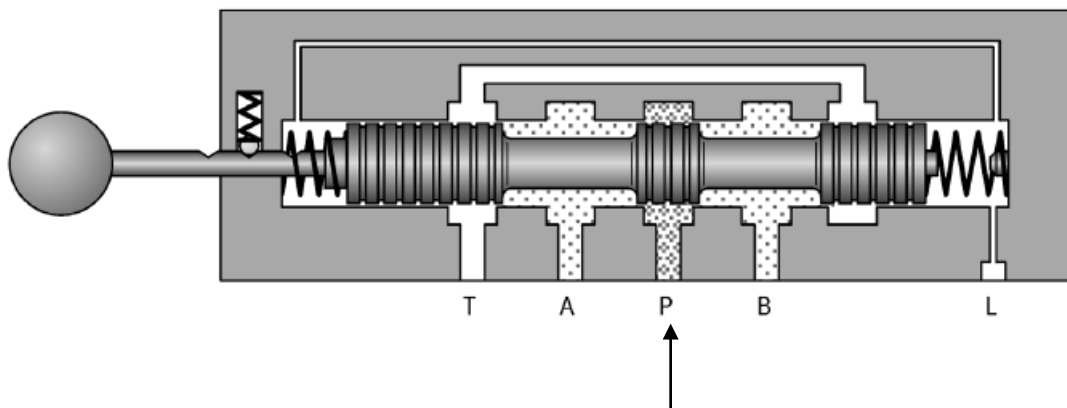

FIG 9.
A. In a closed-centre circuit, the oil from the pump is blocked at the entrance of the valve when it is in a neutral position. (Fig 9)